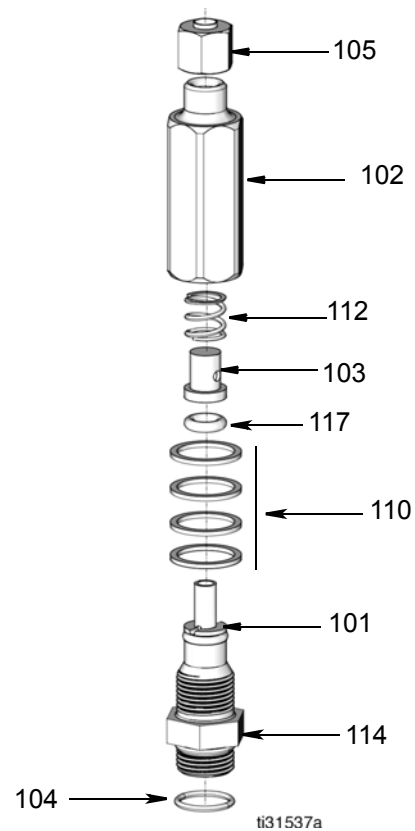
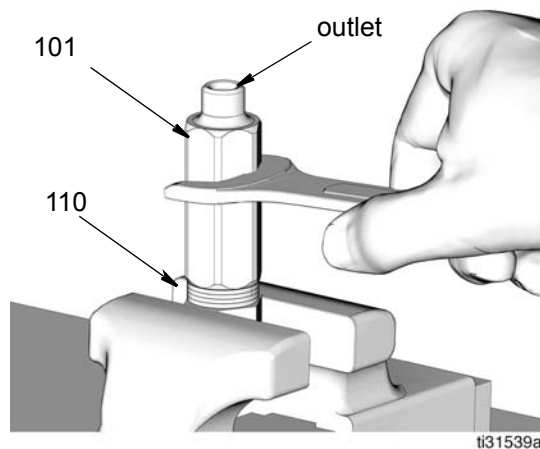

FIG. 36
FIG. 39
Grease injectors are used to provide precise lubrication to each grease point in the system. If an injector is not producing the correct amount of lubricant for a specific location on the vehicle or if a replacement injector of correct size is not available, output spacer washers (110) can be installed to adjust the injector's output volume (FIG. 36, page 44).
3. Use a 5/8 inch wrench to loosen and separate the injector body (102) from the valve assembly (114). Be careful not to misplace or damage the spring (112), retainer cap (103) and o-ring (117) (FIG. 36, page 44).
4. Add or remove output spacers (110) (FIG. 39, page 45) from the injector valve assembly.
- Add spacers (110) to increase output volume.
- Remove spacers (110) to decrease output volume.
5. Reassemble injector valve assembly. Be sure all parts removed during disassembly are reinstalled in the correct order as shown in FIG. 36 (page 44). Use a 5/8" wrench to tighten using only enough force to seat output spacers firmly (110). Torque to 7.8 ft-lb (10.6 N•m).
6. Install injector (101) onto manifold (119/120). Slide a deep well socket over the injector and aligned with the hex nut flats (114) (FIG. 36, page 44). Torque to 7.8 ft-lb (10.6 N•m).